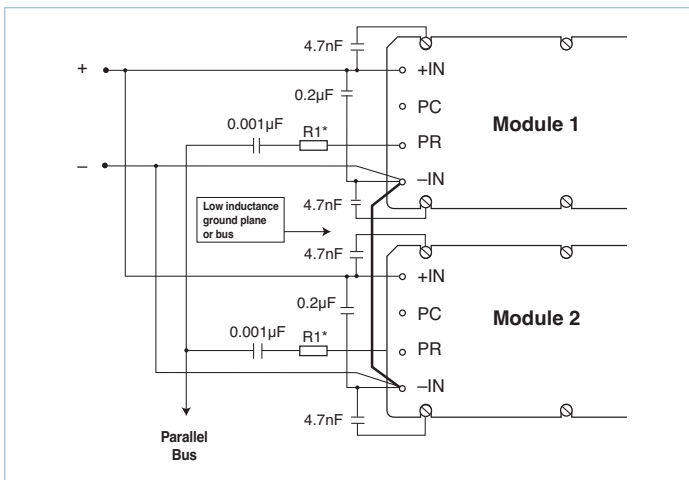

Figure 2.7 — AC-coupled single-wire interface
1. **AC-coupled single-wire interface:** All PR pins are connected to a single communication bus through 0.001µF (500V) capacitors. This interface supports current sharing and is fault tolerant except for the communication bus. (Figure 2.7) This method may normally be used with a maximum of three converters.